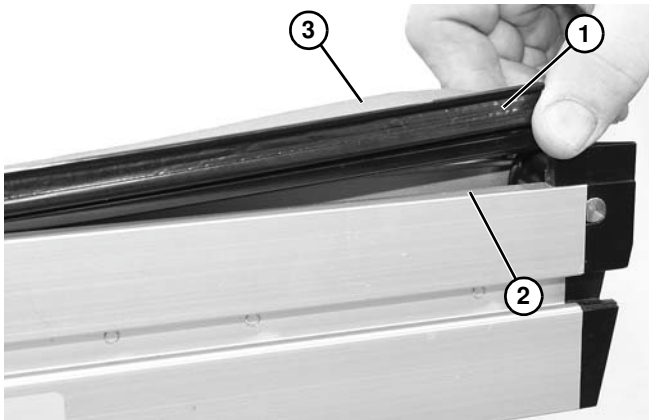

Figure 34
6. Remove the bedstrip (**Figure 34, item 1**) from between the conveyor (**Figure 34, item 2**) and belt (**Figure 34, item 3**).